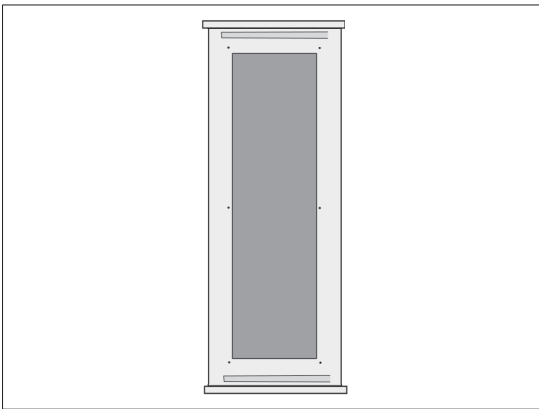

Figure 8
Hold the back frame of your mirror to the wall fitting of the insert open hole area. This is where a friend will come in handy. While you are holding the frame in place against a wall, confirm that the frame is square and level. Locate the (6) mounting holes in the frame. They are 16" apart and should be centered on the two studs in your wall. While holding the frame in place, install the (6) supplied screws into the studs. With the screws installed the frame is now self supporting. If you did not hit a stud you may need to adjust your mirror right or left as necessary. Be sure to anchor your mirror frame to the studs. The mirrors are heavy and if only screwed into drywall over time, they WILL fail, possibly causing damage and injury. So make sure the frame is screwed to the studs. See Figures 8